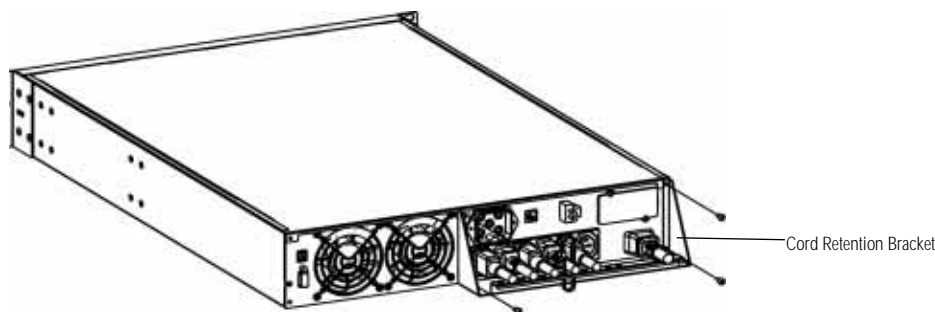

Fig. 7: Cord Retention Bracket
- If using a UPS with IEC receptacles and inlets, cords may be secured by using the cord retainer and supplied tie wraps, see Figure 7.